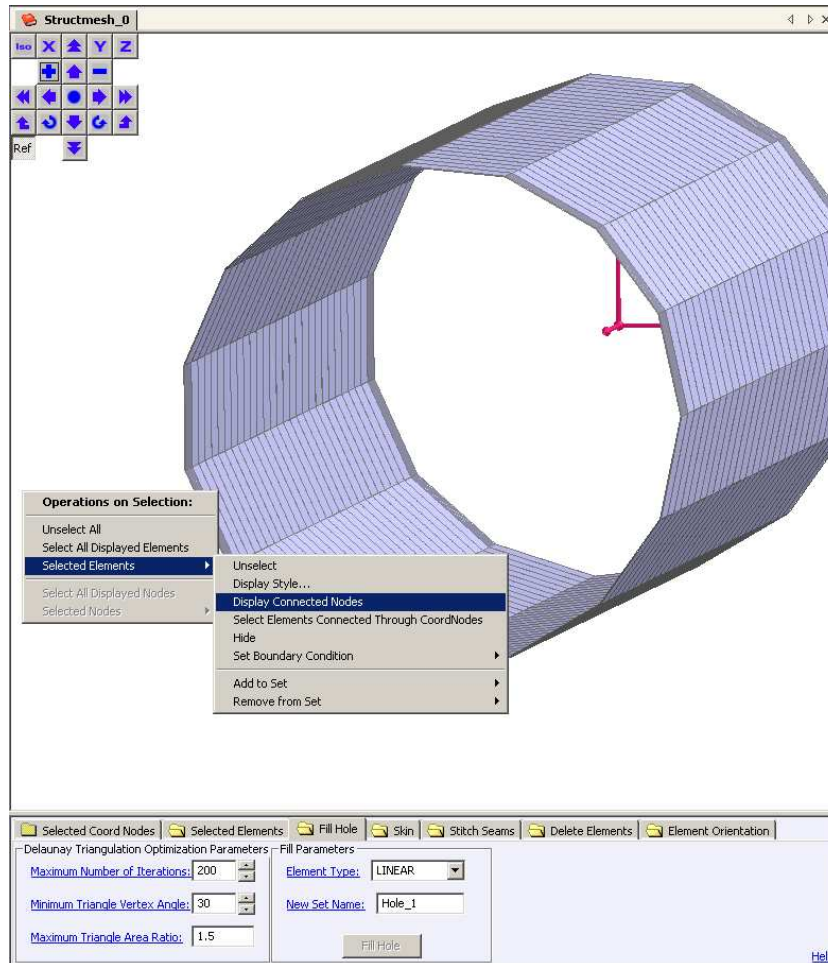

Figure 5.18: Display Connected Nodes
- Display connected nodes for the selected elements. Right-click on the selected elements with the *shift-key* held down and select: **Operations on Selection** → **Selected Elements** → **Display Connected Nodes**. (Figure 5.18)